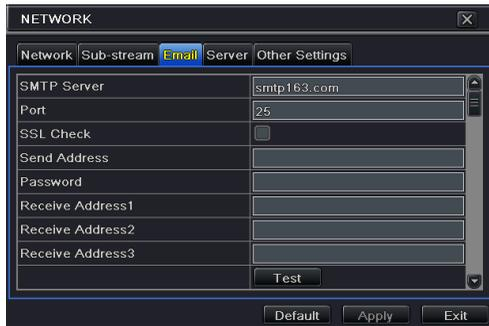

Fig 4-26 Network Configuration-Email
Step 1: Enter into Menu→Setup→ Network→Email interface. Refer to Fig 4-26: